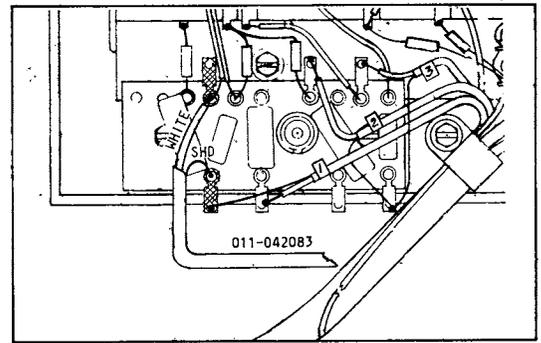
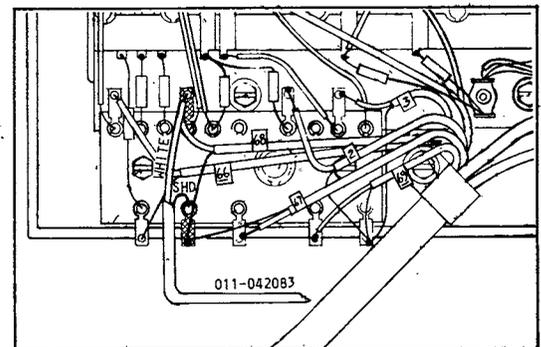

Figure A-15.
Figure A-16
- d. Connect conductor and shield to underside of end block; N-100 according to Figure A-15; N-200 according to Figure A-16. Solder connections. Reattach end block and tighten screws.